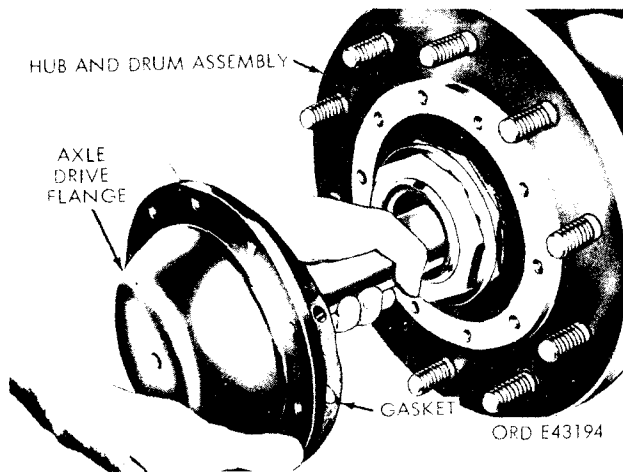

Figure 2-175. Removing rear axle shaft.
(1) Remove the 10 screws and lockwashers securing the axle drive flange (fig. 2-175) to the hub and drum assembly.
(2) Remove the axle shaft by pulling on the axle drive flange (fig. 2-175). Remove and discard the flange gasket.
(1) Slide a new gasket (fig. 2-175) over the splined shaft end and hold the gasket in position on the flange.
(2) Insert the splined end of the shaft in the hub. Push the axle drive flange inward toward the center of the truck. Carefully guide the shaft splined end into the splined differential side gear.
(3) Align the ten drive flange holes with the ten matching holes in the drum. Install 10 screws and lockwashers. Tighten the screws to 70-80 ft.-lb. torque.